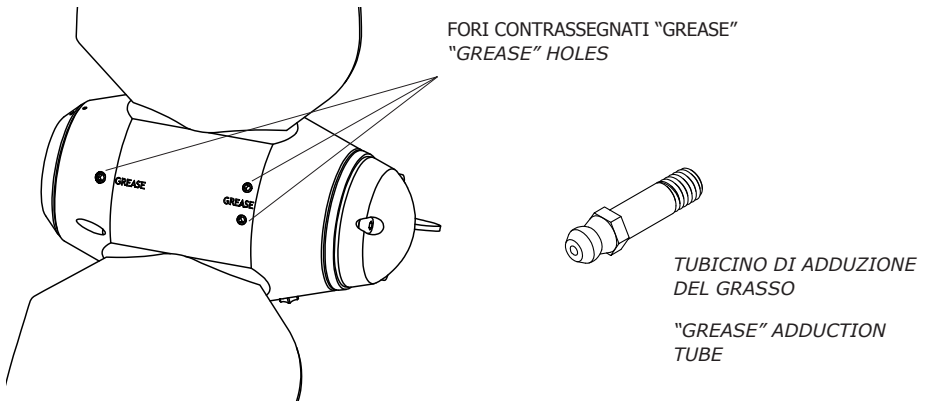

fig. 3
- a. Fill the propeller body completely with fluid grease through the designated holes marked "grease" (see fig. 3).